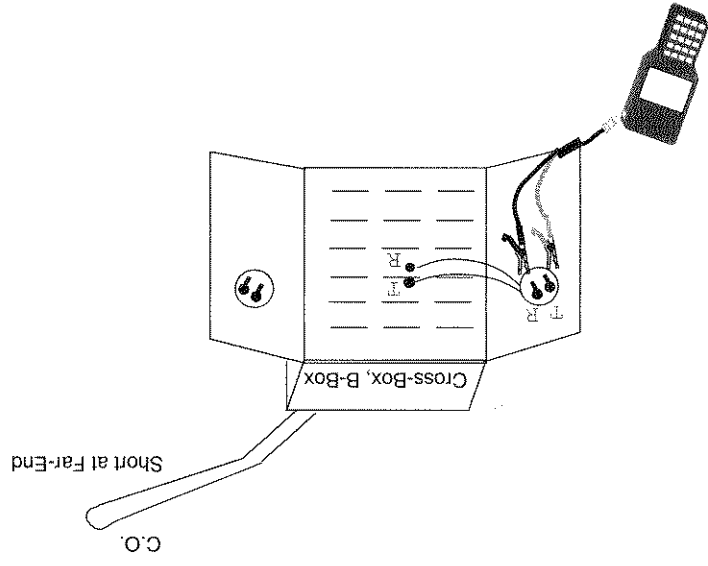

Figure 6-20 Connecting the SunSet to the Circuit to Measure Resistance
- 1) Connect the SunSet to the circuit. Refer to Figure 6-20. In this figure, alligator clips are used to connect to the tip & ring at cross-box. **There must be a short at the far end to perform this measurement.**